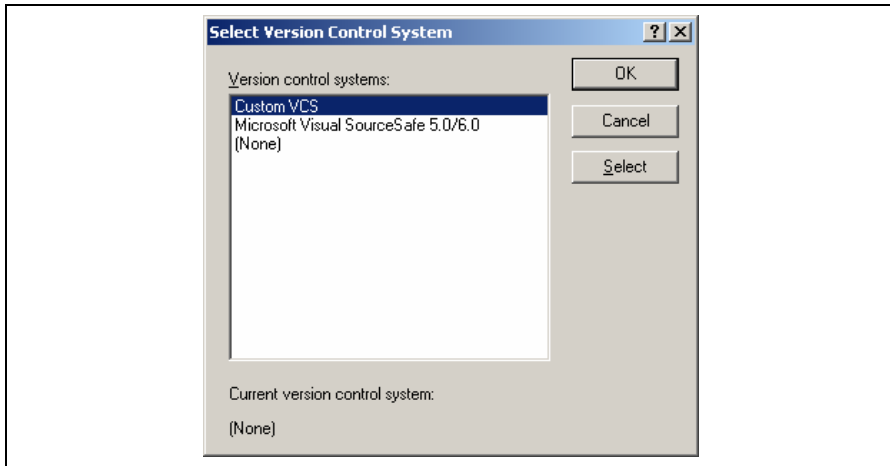

Figure 7.3: Select Version Control System Dialog
1. Select [Version Control->Select...]. The dialog shown in figure 7.3 will be displayed. This dialog lists all of the supported version control systems.
Note: Only those version control systems, which have been installed with the HEW, will appear in the “Select Version Control System” dialog (figure 7.3).